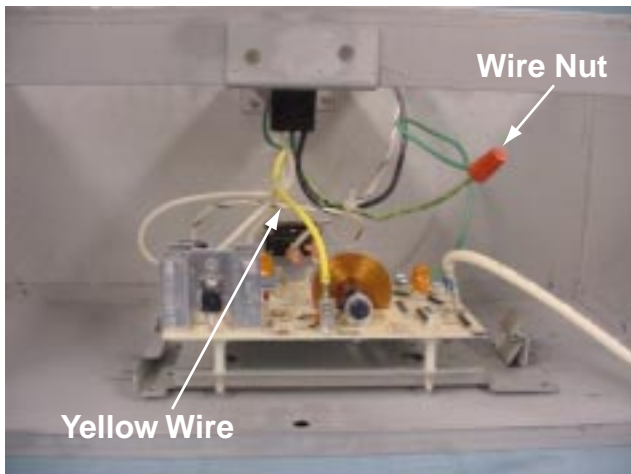
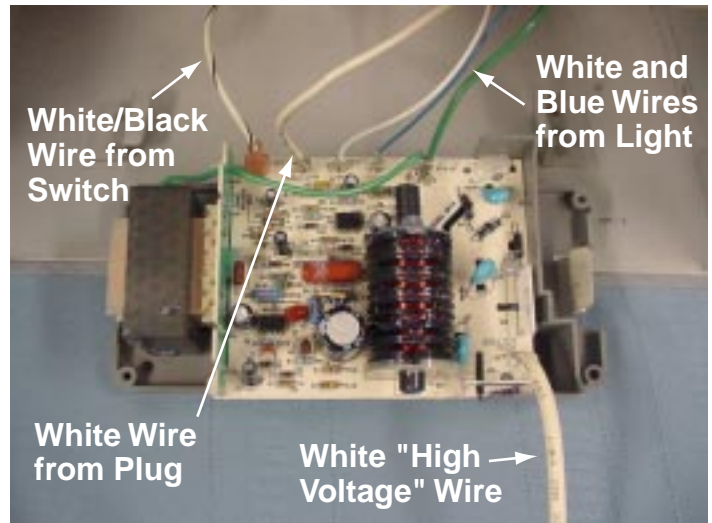

Figure 1 858-0746 Power Supply
Figure 2 5088A-101 Power Supply
**Instructions for replacing the 858-0746 (See Fig. 1) power supply with a 5088A-101(See Fig. 2)
NOTE: If old power supply is type 5088A-101 (see Fig. 2), replacement of light is not required. Disconnect wires from existing 5088A-101 power supply and connect to new power supply following steps 4 thru 10.